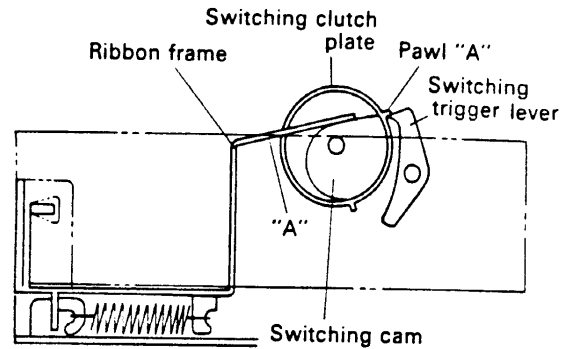
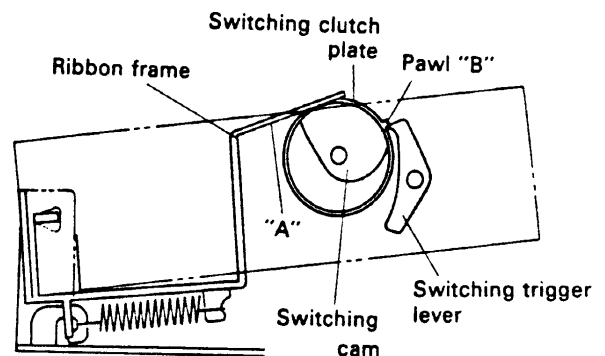
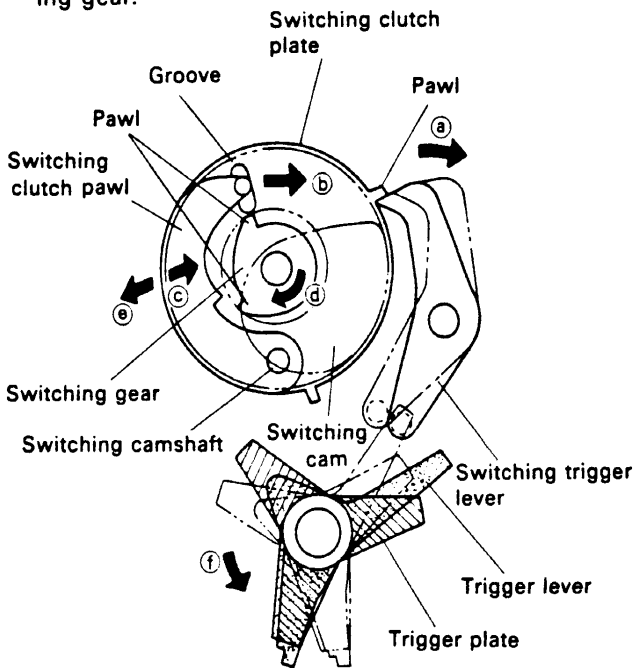

Fig. 1-23. Black Printing Status
Fig. 1-24. Red Printing Status
Fig. 1-26. Operation of Switching Clutch
Black Printing Status (see Fig. 1-23)
Red Printing Status (see Fig. 1-24)
Operation of Switching Clutch (see Fig. 1-26)
Initialization (see Figs. 1-23, 24, and 1-26)
- ① When the trigger coil is charged with the prescribed pulse (see "1. Initialization" of the "Model-262 Operating Description," on page 1-14), the trigger plate is drawn toward the trigger coil, adheres to the trigger yoke holder of the carrier driving cam ass'y, then rotates in the \blacktriangleright arrow \textcircled{f} direction shown in Fig. 1-26. The rotating force is also transmitted to the trigger lever which is combined with the trigger plate so the trigger lever is rotated in the \blacktriangleright arrow \textcircled{f} direction of Fig. 1-26.
- ② Rotation of the trigger lever causes the switching trigger lever to rotate in the \blacktriangleright arrow \textcircled{a} direction of Fig. 1-26.
- ③ Rotation of the trigger lever disengages it from the switching clutch plate so that the switching clutch plate and switching cam rotate in the \blacktriangleright arrow \textcircled{d} direction.
- ④ When the trigger coil is recharged at the moment that the switching makes a 50% rotation after the initial charging, because the switching clutch plate continues rotating if the ribbon switching mechanism was in black printing status (Fig. 1-23), the mechanism will not operate despite operation of the switching trigger lever. If initially in the red printing status (Fig. 1-24), the switching clutch plate will be stopped by the switching trigger lever and the black printing status (Fig. 1-23) will be assumed, so the switching trigger lever rotates in the \blacktriangleright arrow \textcircled{a} direction, it becomes disengaged from the switching clutch plate, then the switching clutch plate and switching cam begin rotating once more.
- ⑤ When the switching gear rotates further and the trigger coil is charged with the prescribed pulse, the switching trigger lever rotates. Consequently, the switching trigger lever becomes disengaged from the switching clutch plate, the switching cam rotates, and the ribbon switching mechanism switches from the red status to black status then assumes standby mode.
(see Figs. 1-23, 1-24, 1-25, and 1-26)
"Model-262 Operating Description," on page 1-15), the switching trigger lever rotates and becomes disengaged from the switching clutch plate, and the switching cam rotates (Fig. 1-26). Next, if the mechanism either switches to red status (Fig. 1-24) if it was in black status (Fig. 1-23), or switches to black status (Fig. 1-23) if it was in red status (Fig. 1-24).